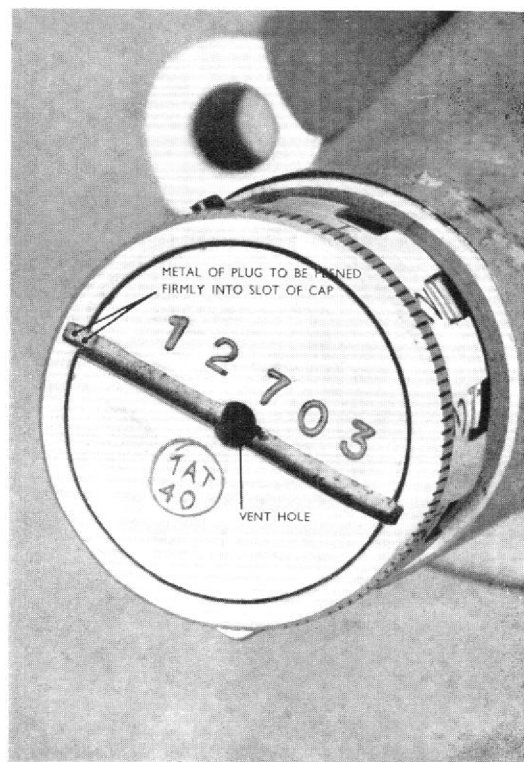

Fig. 5. Vent orifice and locking of cap in adjuster plug.
- (e) Examine the vent orifice (Fig. 5) in adjusting head cap (1) for signs of excessive oil leakage therefrom. Any leakage indicates that the pump should be changed and the original sent for rig testing.
- (h) Adjust the metering pump, should the above tests show this to be necessary, by turning the knurled adjuster plug (2) whilst holding the leaf spring (12) clear of notch engagement until the latter spring engages the lowest numbered notch which will provide the delivery specified.